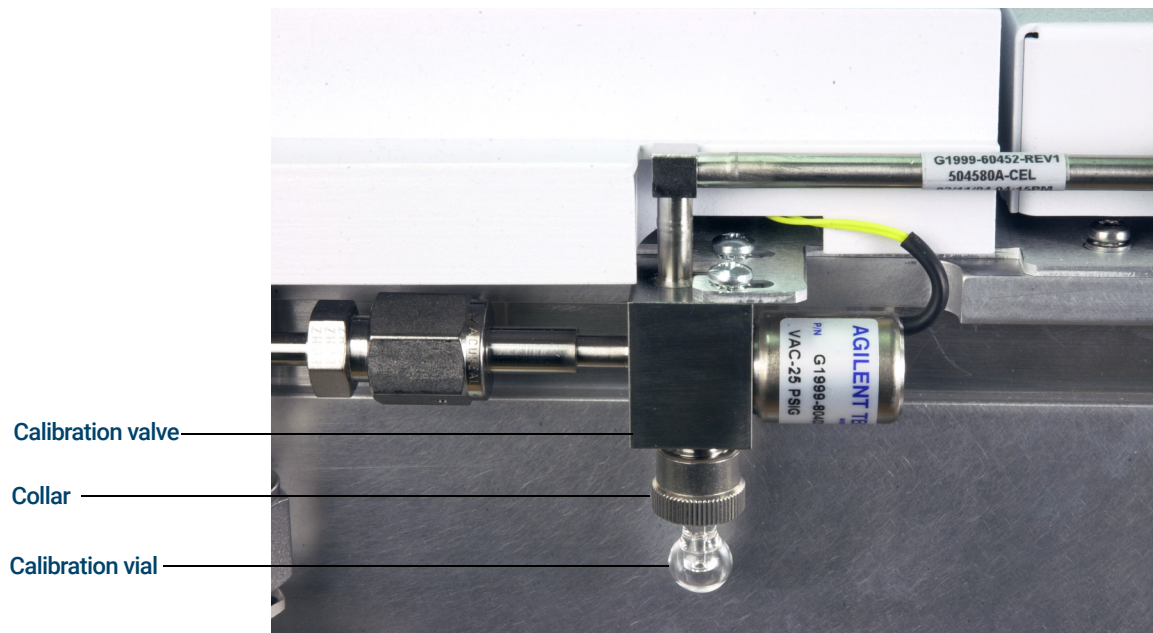

Figure 23. CI calibration valve and vial
- 6 Remove the calibration vial. See **Figure 23** on page 143.